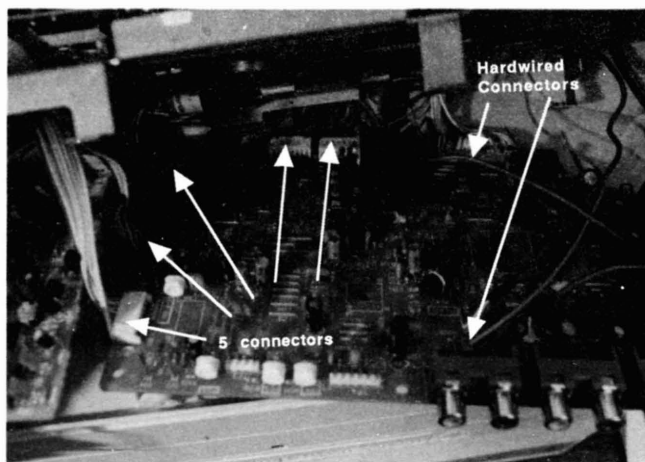

Figure 11
D. Disconnect wires from 5 connectors. (Figure 11).
A. Re-connect 5 connectors and any hardwired connections (Figure 11).